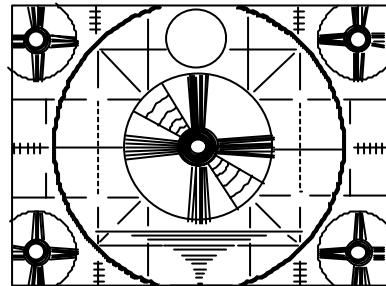

Fig.2-7 NTSC MONO-SCOPE
2. Use the VOLUME + or - key on the remote controller to adjust each of the six circles to draw a true circle. (Fig. 2-7)